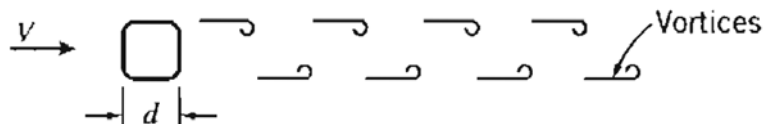

Figure 4
4. In some speed ranges, vortices are shed from the rear of bluff cylinders placed across a flow. The vortices alternately leave the top and bottom of the cylinder, as shown in Fig. 4. The vortex shedding frequency,  $f$ , is thought to be dependent on fluid density,  $\rho$ , and viscosity,  $\mu$ , cylinder diameter,  $d$ , and free-stream velocity,  $V$ . (a) Use dimensional analysis to develop a functional relationship for  $f$ . (b) Vortex shedding occurs in standard air on two cylinders with diameters  $d_m$  and  $d_p$ , respectively. If the diameter ratio is  $d_p/d_m = 2$ , determine the velocity ratio,  $V_p/V_m$ , for dynamic similarity, and the ratio of vortex shedding frequencies,  $f_p/f_m$ . For part (a), use the *MLT* unit system.